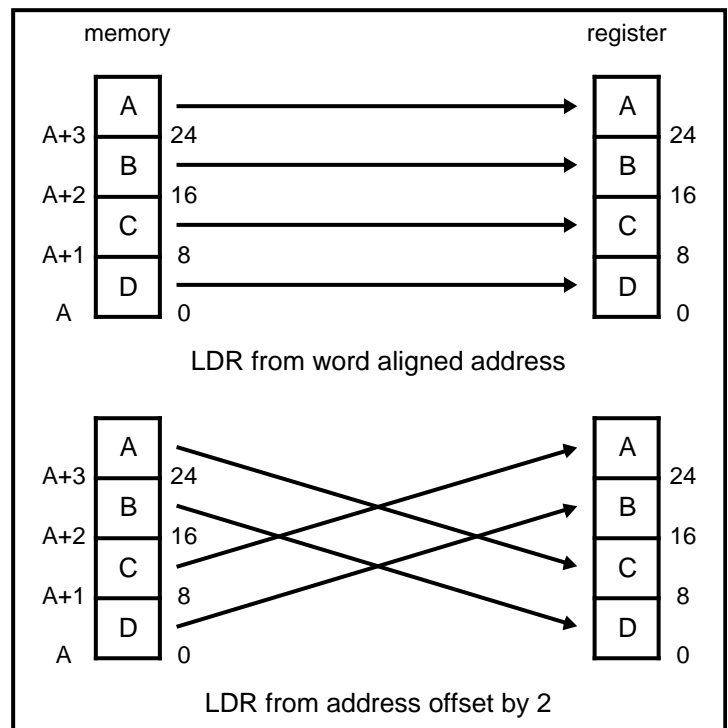

Figure 5-15: Little Endian offset addressing
- Word load (LDR)** will normally use a word aligned address. However, an address offset from a word boundary will cause the data to be rotated into the register so that the addressed byte occupies bits 0 to 7. This means that half-words accessed at offsets 0 and 2 from the word boundary will be correctly loaded into bits 0 through 15 of the register. Two shift operations are then required to clear or to sign extend the upper 16 bits. This is illustrated in Figure 5-15: Little Endian offset addressing on page 5-25.